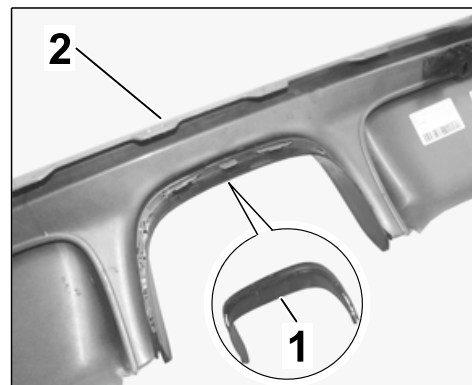

Figure 33
- 6.3 Unclip tailpipe cover trim frame $\Rightarrow$ *Figure 33 -1-* from the standard rear skirt and clip it into the new rear skirt $\Rightarrow$ *Figure 33 -2-*.